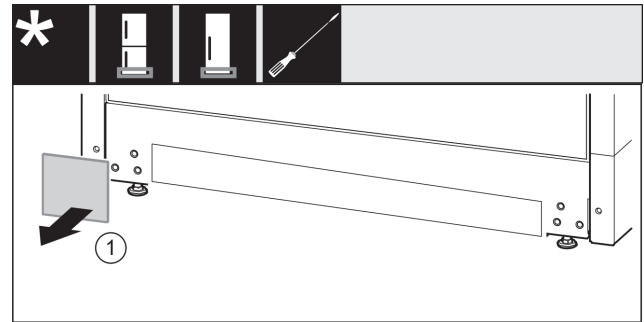

Fig. 15
- ▶ Take off the cover. *Fig. 15 (1)*